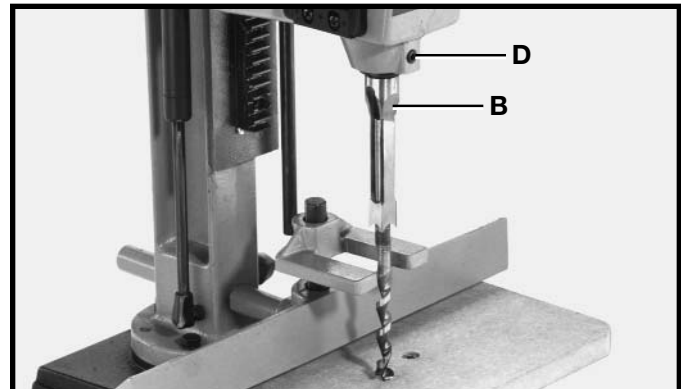
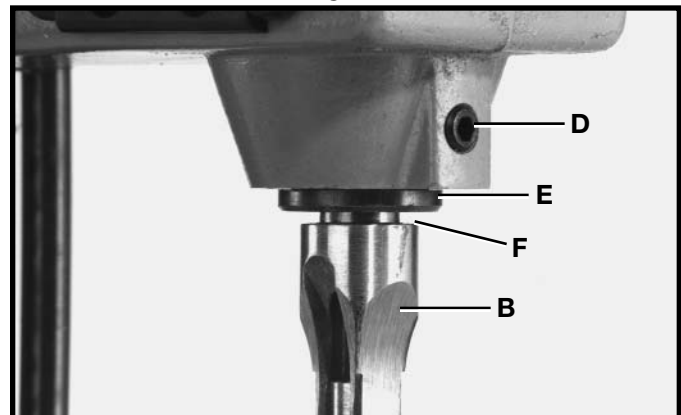

Fig. 21
Fig. 22
3. Loosen screw (D) Fig. 21, and push chisel (B) up through hole in head as far as possible. Then lower chisel (B) 1/16" to 3/16" and tighten set screw (D). **IMPORTANT:** When inserting chisel (B) Fig. 22 into head, there must be a space of 1/16" to 3/16" clearance between the bushing (E) and shoulder (F) of chisel as shown. This assures having proper clearance between the cutting lips of the bit and points of the chisel after the bit is inserted into the chuck.